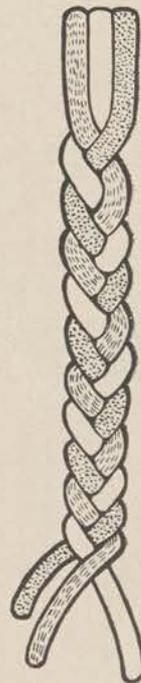

Figure 142.
*a.* The simplest type of braiding is done with three strands (fig. 142). You start with the outer